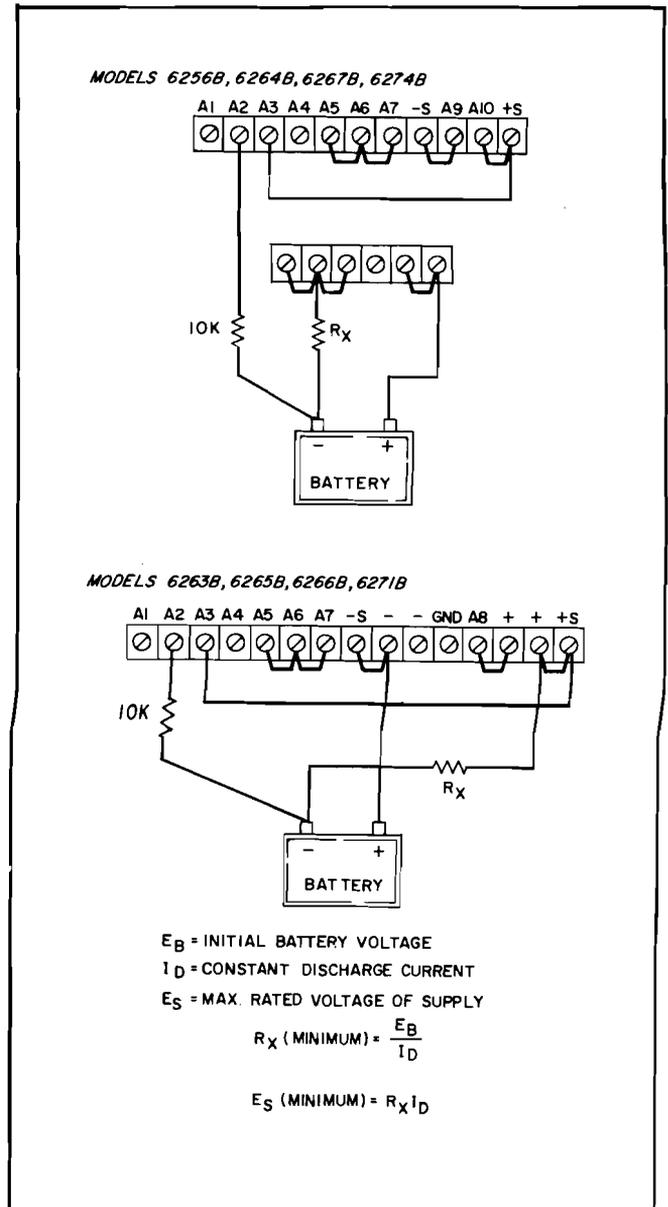

Figure 3-15. Battery Discharging
**3-84** These power supplies are also useful when batteries must be discharged at a constant current in order to test them. Connecting a supply as shown in Figure 3-15 and following the instructions below makes an unattended constant-current discharge possible by automatically shutting off the output of the supply when the battery voltage reaches zero.
**3-85** The supply operates in the constant-current mode, delivering the current set by the current control. This constant current flowing through dropping resistor  $R_X$  produces a constant voltage across the resistor. Initially, the battery voltage is high and the supply's output voltage is low, but as the battery voltage decreases during discharge, the supply voltage increases. When the battery voltage reaches zero, the supply senses this through the connection to its (A2) terminal and reduces the output current to zero. As shown in Figure 3-15,  $R_X$  must be selected so that its IR drop is less than the maximum rated output voltage of the supply, but greater than the initial battery voltage.
- b. Connect terminal (A3) to (+S) and leave all other jumpers connected as for normal operation as shown in Figure 3-15.